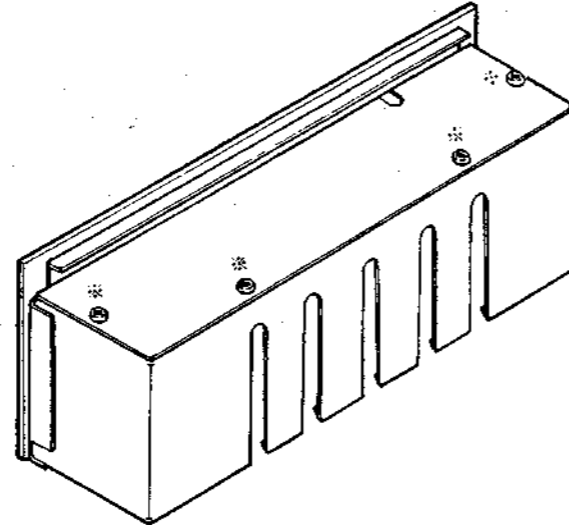

Fig. 2-1. Removal of Shield Plate
- c. Remove the four Phillips-Head screws (+RF3 ϕ × 6) that secure the shield plate. See Fig. 2-1.